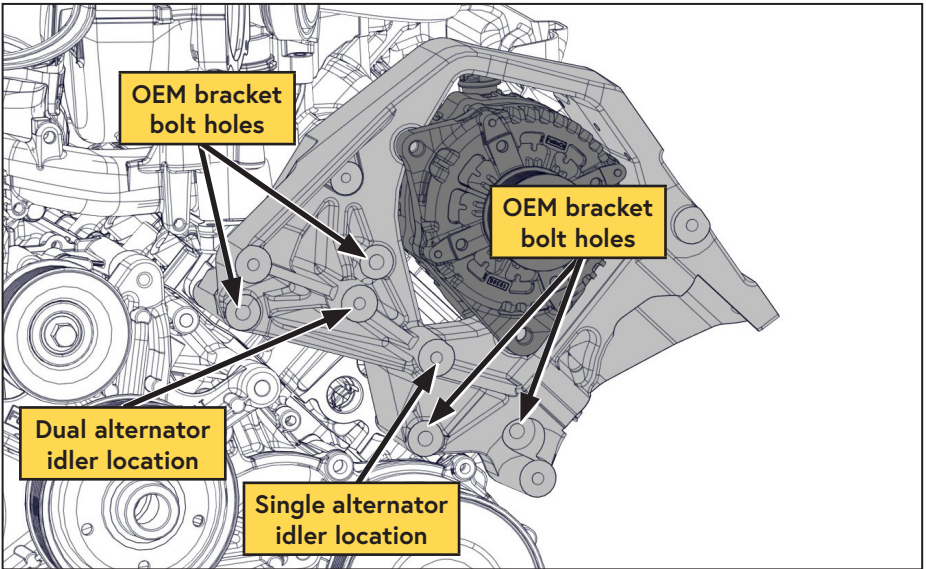

Figure 47 — Installing the OEM idler
- ☐ Install the retained rubber bushings onto the (x4) OEM fasteners and mount the bracket onto the engine. The VMAC bracket uses the same mount location as the OEM bracket (Figure 47).